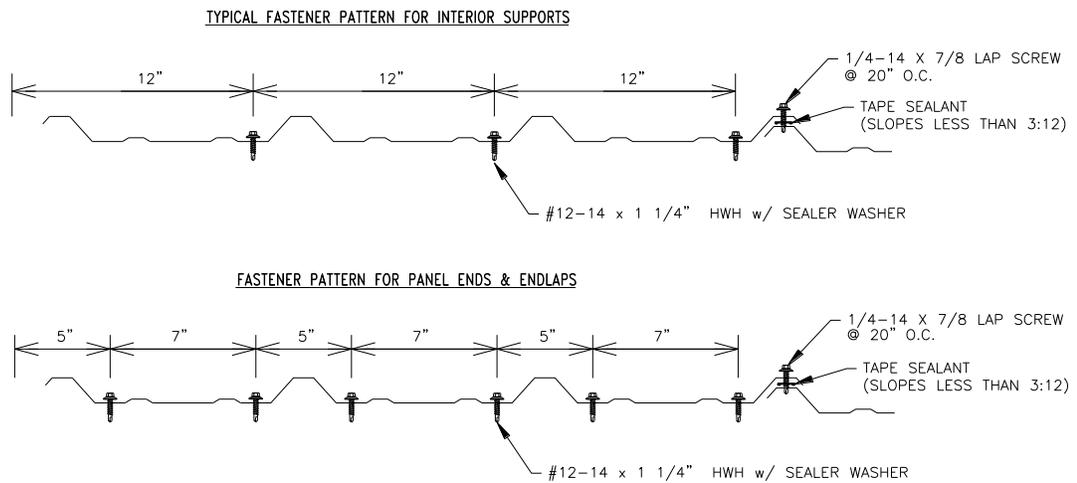

Figure 1 - Minimum 26 Gauge PBR Panel Fastener Patterns
**Attachment of Metal Roof Panels to the Steel Purlins:** The metal roofing panels shall be secured to the steel purlins with No. 12-14 x 1 ¼" HWH DP3 self-driller screws with 15 mm bonded sealing washer. A line of fasteners shall be located along each steel purlin. The fastener pattern and the spacing of the fasteners shall be as specified in Table 1. The fasteners shall be long enough to ensure a minimum penetration of 3 pitches of thread below the steel purlin. Refer to Figure 1 in this evaluation report.
**Panel Ends and End Laps to the Steel Purlins:** Minimum No. 12-14 x 1 ¼" HWH DP3 self-driller screws with 15 mm bonded sealing washer. A line of fasteners in a 5"-7"-5"-7"-5" pattern shall be located along the steel purlin. The fasteners shall be long enough to ensure a minimum penetration of 3 pitches of thread below the steel deck. Refer to Figure 1 for an illustration of the fastener pattern.
**Panel Edges to the Steel Purlins:** Minimum No. 12-14 x 1 ¼" HWH DP3 self-driller screws with 15 mm bonded sealing washer. A line of fasteners in a 5"-7"-5"-7"-5" pattern shall be located along the steel purlin. The fasteners shall be long enough to ensure a minimum penetration of 3 pitches of thread below the steel deck. Refer to Figure 1 for an illustration of the fastener pattern.